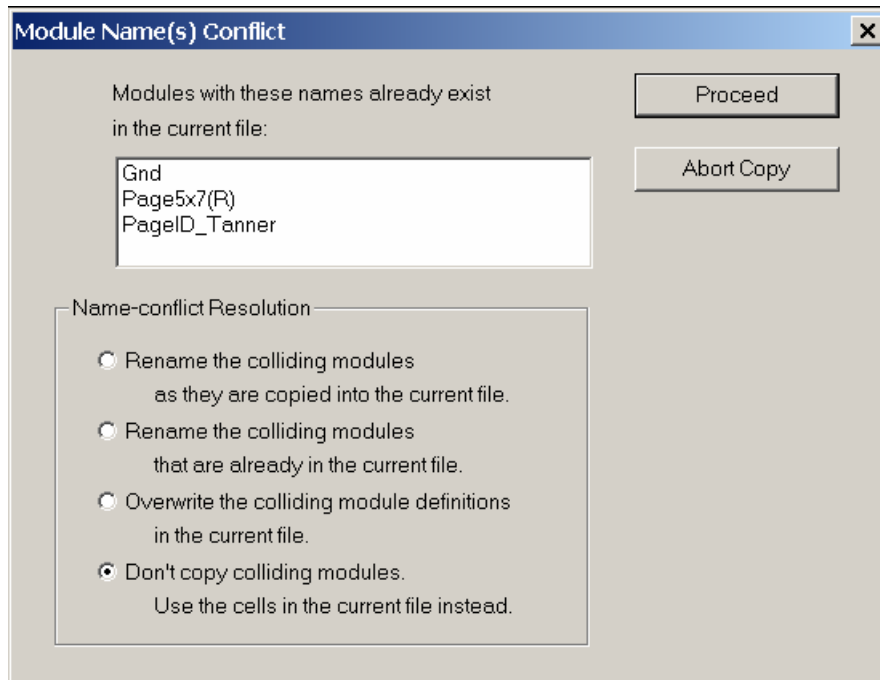

Figure 28. Module Name(s) Conflict Dialog
3. Next, we need to use the wire tool in the left toolbar to connect the oscillators in a ring, as shown in Figure 28 below.